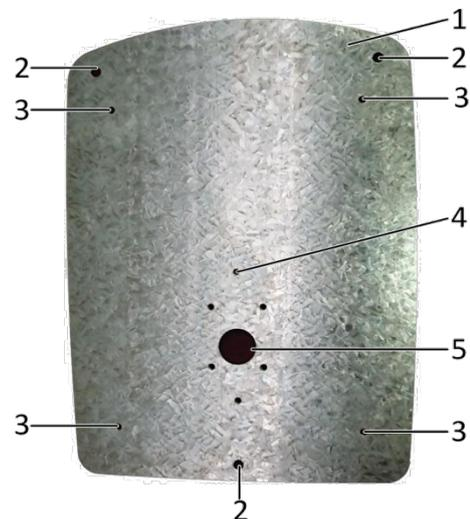

Figure 18: Mounting Plate
12. The mounting plate (1) has the following holes (See Figure 18):
- a. Wall mounting holes (2).
- b. Cover mounting holes (3).
- c. Gooseneck mounting holes (4).
- d. Wiring hole (5).
16. Feed the 220V supply through the centre hole (5).